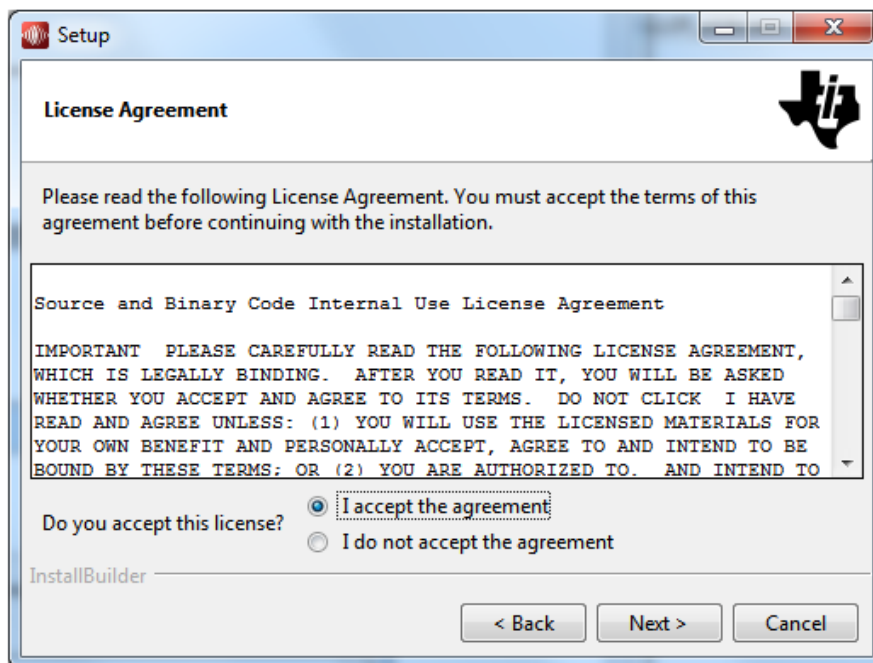

Figure 35. HMC-DAQ GUI Install (TI License Agreement)
2. Read the Texas Instruments License Agreement and select *I accept the agreement* followed by the *Next* button, as in Figure 35.